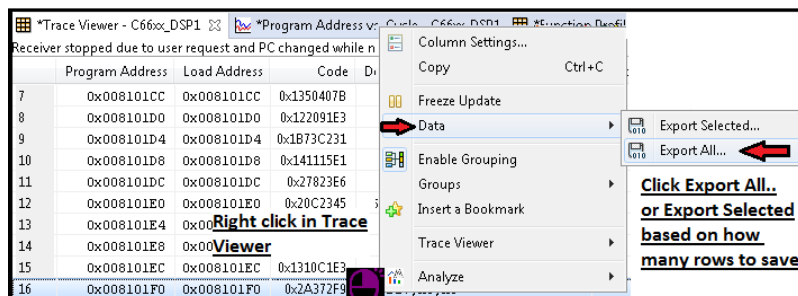

Figure 27. Steps to Save the Trace Data to a CSV File
16. To save the trace data to a CSV file for off line analysis, right click in the Trace Viewer Window. Choose Data → Export (see Figure 27).